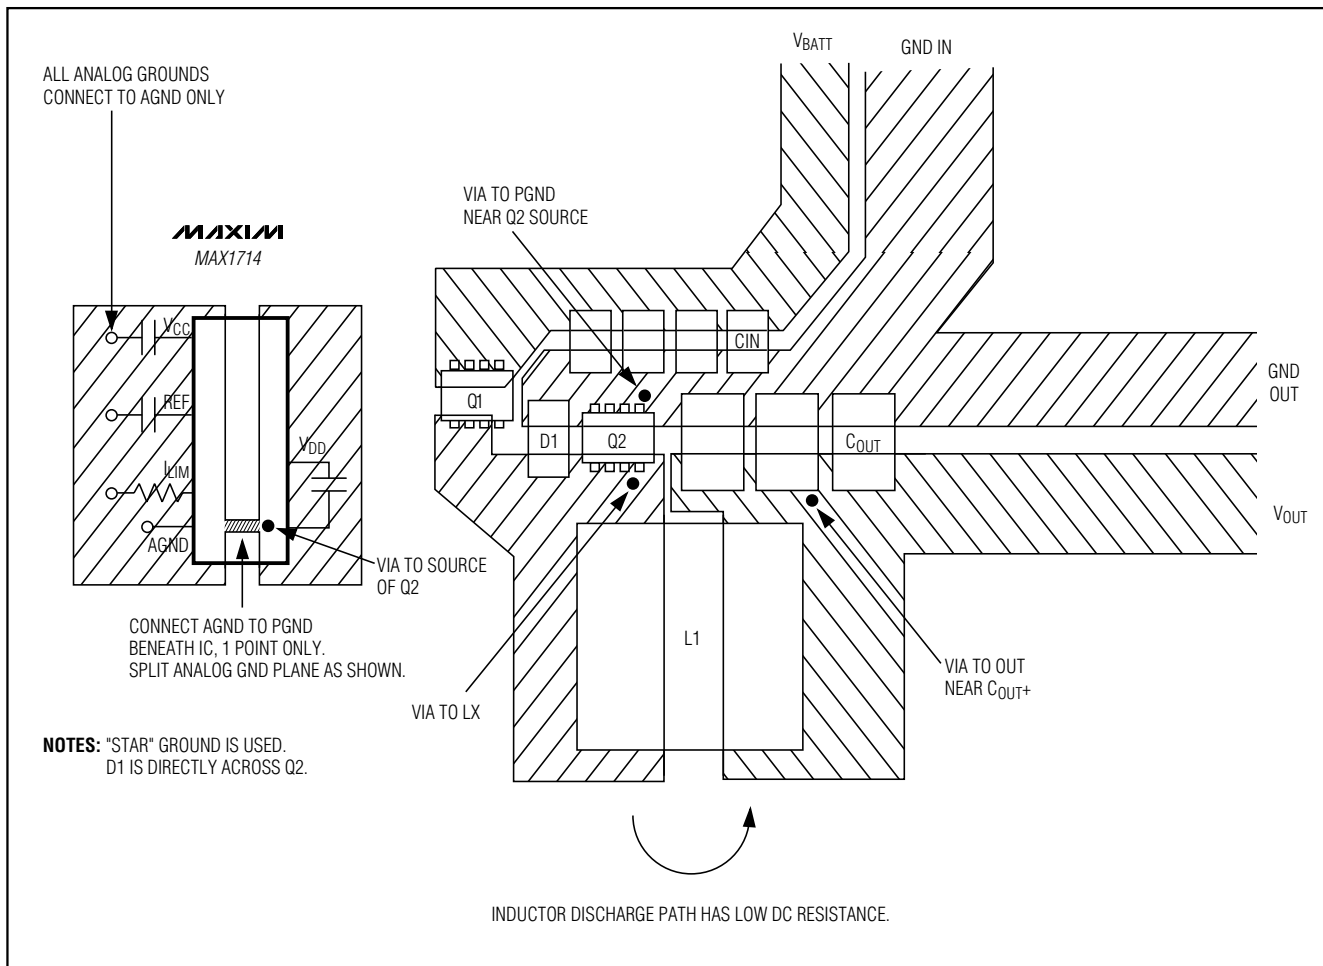

Figure 11. Power-Stage PC Board Layout Example
Careful PC board layout is critical to achieving low switching losses and clean, stable operation. The switching power stage requires particular attention (Figure 11). If possible, mount all of the power components on the top side of the board with their ground terminals flush against one another. Follow these guidelines for good PC board layout:
- 4) Make the DC-DC controller ground connections as shown in Figure 11. This diagram can be viewed as having three separate ground planes: output ground, where all the high-power components go; the PGND plane, where the PGND pin and VDD bypass capacitor go; and an analog AGND plane, where sensitive analog components go. The analog ground plane and PGND plane must meet only at a single point directly beneath the IC. For the MAX1714B, this point should be the GND pin. These two planes are then connected to the high-power output ground with a short connection from VDD cap/PGND to the source of the low-side MOSFET, Q2 (the middle of the star ground). This point must also be very close to the output capacitor ground terminal.